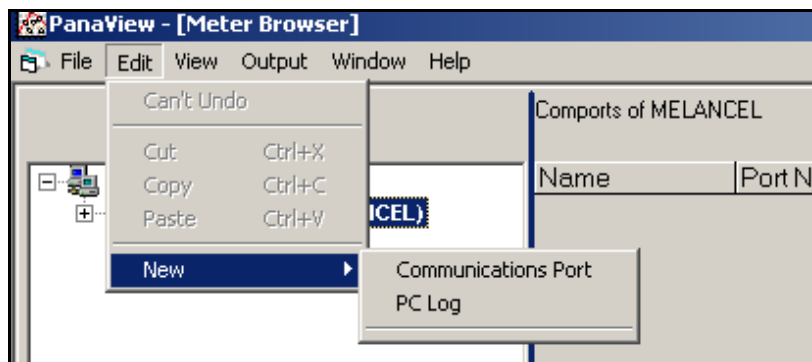

Figure 77: Edit Menu
3. Click on the "New" menu option to open a submenu opens with two choices (see *Figure 77* below).